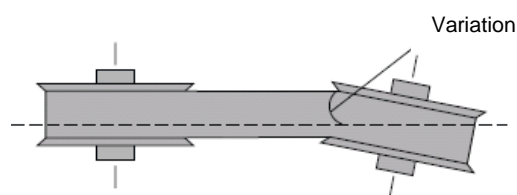
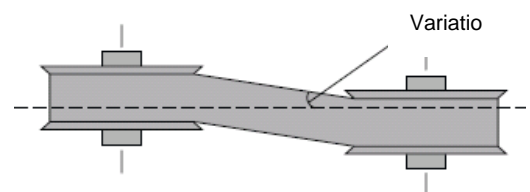

Fig. 10-8 Angular misalignment
Fig. 10-9 Parallel misalignment
10.- Adjust motor position to correct misalignment (Fig. 10-8 and Fig. 10-9).
Generally, the tolerance in pulley alignment in V-belt drive transmissions may not be greater than 0.5 degrees or 5 mm for each 500 mm of distance between centres (Fig. 10-8 and Fig. 10-9).
Take care to fit the grease sealing ring in the right direction (Fig. 10-9 and Photo 55).